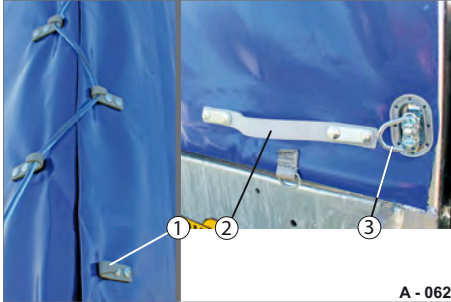

Fig. 67 Unlocking curtain section
- ▶ Release the tensioning rope from the latches (Fig. 67/1).
- ▶ Screw on the cramp (Fig. 67/3).